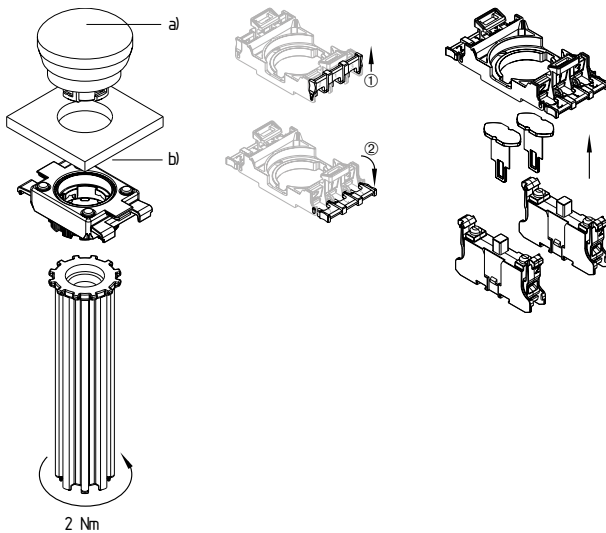

Fig. 2 Fig. 3 Fig. 4
- Assembly of the head of the emergency stop device and mounting flange by turning the RMW mounting tool to the right (Fig. 2):